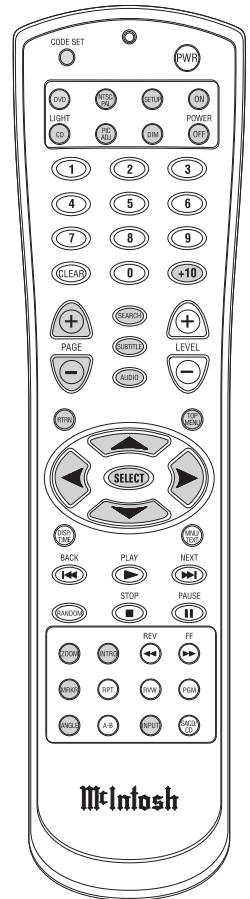

Figure 12
This feature allows continuous repeating of a specific disc segment. Refer to figures 12, 16 and 17.
This feature allows for listening to Tracks of a Disc in a Random Order. Refer to figures 12 and 18.
1. Press the PGM (Program) Push-button to access the Program Mode. Refer to figures 12 and 19.
2. Enter the first desired selection using the Numeric Push-buttons. Refer to figures 12 and 20.